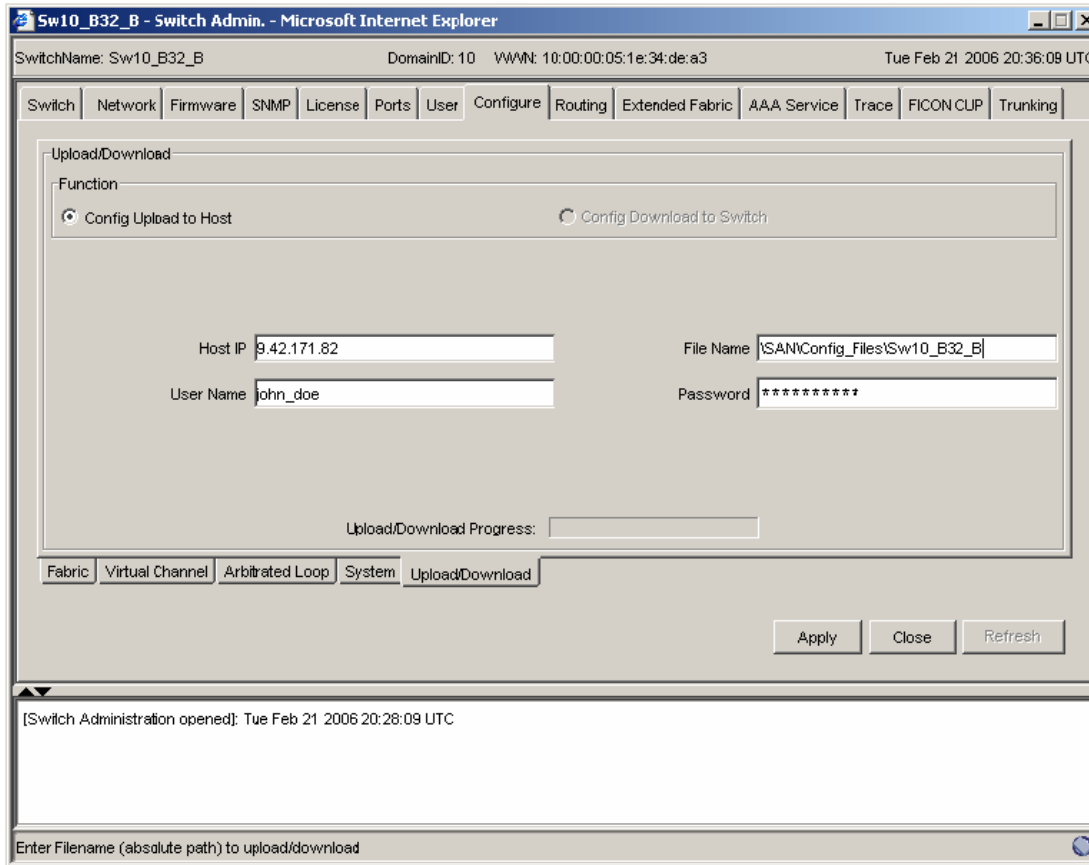

Figure 5-67 Download the switch information
- d. Click **Apply** (see Figure 5-67 on page 129).